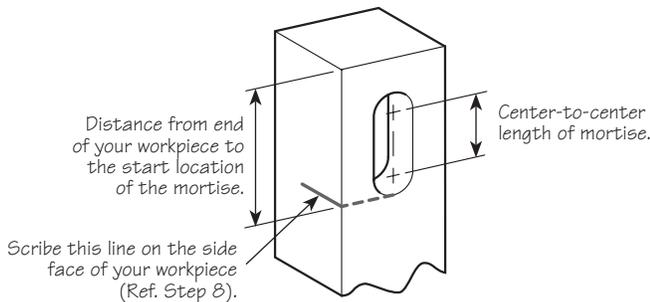
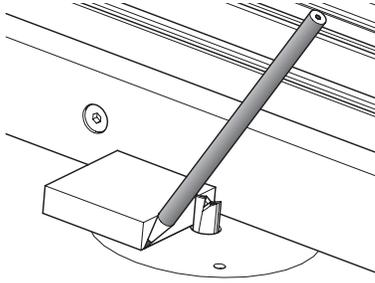

Figure 11: Mortise dimensions.
Figure 13: Marking the bit tangent line. Ensure the line is longer than the width of your workpiece. This line corresponds to the line shown in **Figure 11**.
4. Use a scrap piece of wood to cut a spacer block that is the same length as the center-to-center length of your required mortise (ref. **Figure 11**).
8. As shown in **Figure 11**, scribe a pencil mark on the **side** face of your workpiece to define one end of the mortise location (the side face is marked so it will be visible when you place the workpiece down on the table). Likewise, make a pencil mark on the table, located tangent to the leading edge of the bit and perpendicular to the fence (a small square or piece of wood as shown in **Figure 13** makes this easy).
- Retract the fence until the front sled stop contacts the front position stop. Place the workpiece down on the table, aligning the marks on the workpiece and the table. Ensure that the workpiece is oriented such that the mortise will be cut on the desired side of the marked line as the fence is pushed forward (see **Figures 11** and **14**). Clamp the workpiece to the fence with the marks aligned.